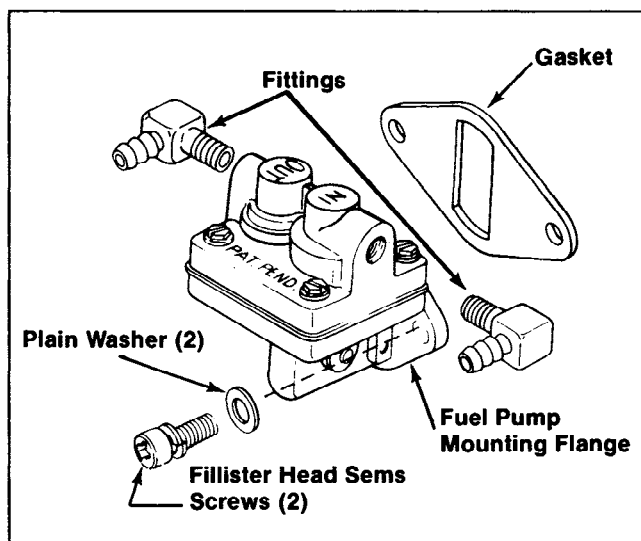

Figure 6-3. Installing Fuel Pump.
2. Install new gasket, fuel pump, flat washers, lock washers and fillister head sems screws. Refer to Figure 6-3.